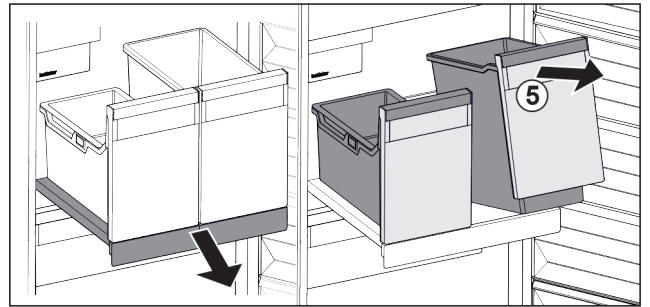

Fig. 100
- Lift the container Fig. 100 (5) at the front.